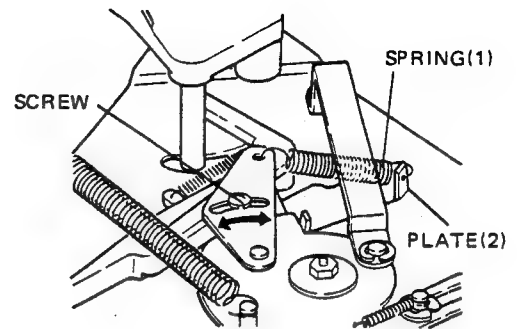

Fig. 12
Adjust the tension of the spring (1) attached to the plate (2). Turning the screw clockwise will make the plate (2) move slowly: turning it counterclockwise will make the plate (2) move fast (Fig. 12).